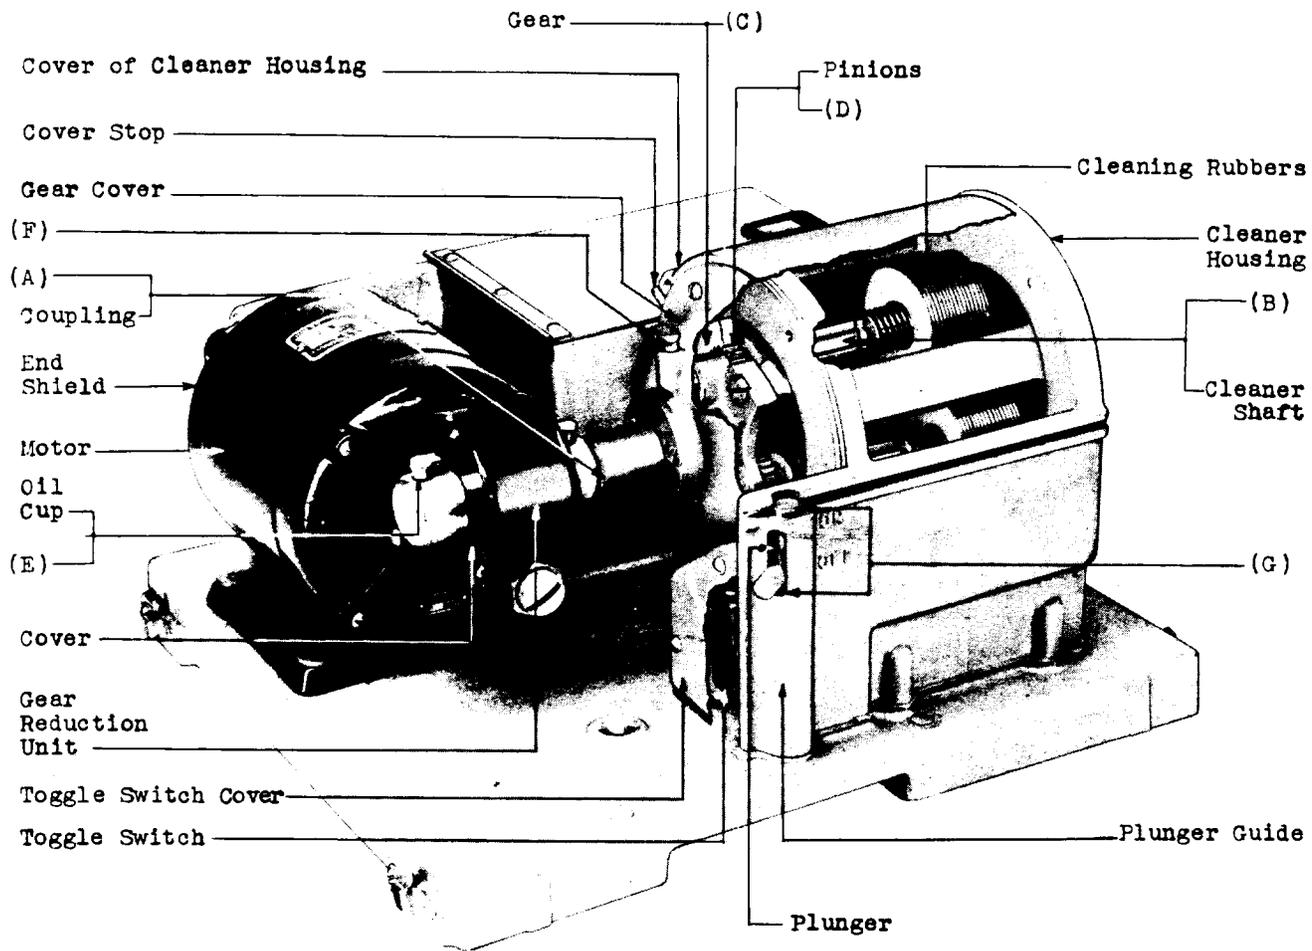

Fig. 1 - Portable Plug Cleaning Machine
- (1) Gears of Gear Reduction Unit
- (2) Motor Bearings
- (3) Toggle Switch Handle Bearing (in plunger)
- (4) Coupling — Fig. 1(A)
- (5) Cleaner Shaft — Fig. 1(B)
- (6) Teeth of Gear in Cleaner Housing — Fig. 1(C)
- (7) Teeth of Pinions in Cleaner Housing — Fig. 1(D)
- (1) Gear Reduction Shaft Bearings (through oil cups on gear reduction housing) — Fig. 1(E)
- (2) Cleaner Shaft Bearing (through oil cup at coupling end) — Fig. 1(F)
(c) Fig. 1(G) — The bearing surfaces of the plunger (at the top of the plunger guide and at the bottom of the slot) shall be adequately lubricated with KS-8496 lubricating compound. When lubrication is necessary the parts shall be lubricated with one dip of the lubricant.